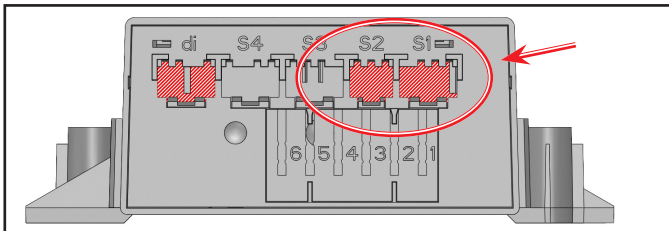

Fig. 6. Danfoss ERC remote display and probe connections.
15. Connect the probes and the remote display to the replacement temperature control. See fig. 6. Do not connect the display cable to the remote display at this time.